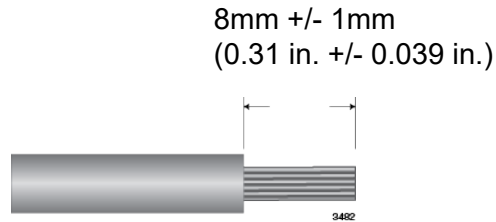

Figure 47. Stripped Wire
4. With a 14-gauge wire-stripping tool, strip the three wires in the tray cable coming from the DC input power source to $8\text{mm} \pm 1\text{mm}$ (0.31 in., ± 0.039 in.), as shown in Figure 47 on page 123.